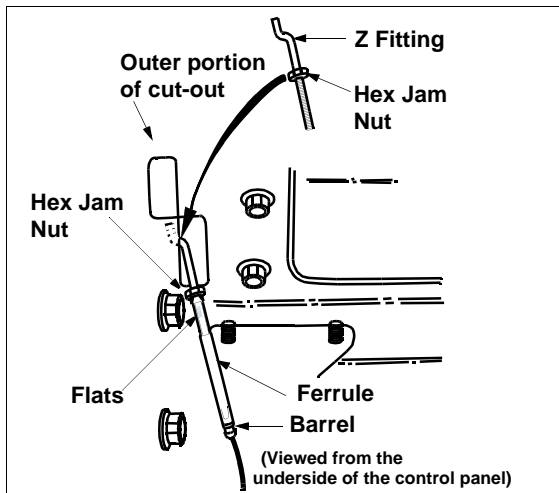

Figure 10
- Ensure there is a hex jam nut threaded all the way up the threaded portion of the Z fitting; extras are supplied in the hardware pack. See Figure 10.